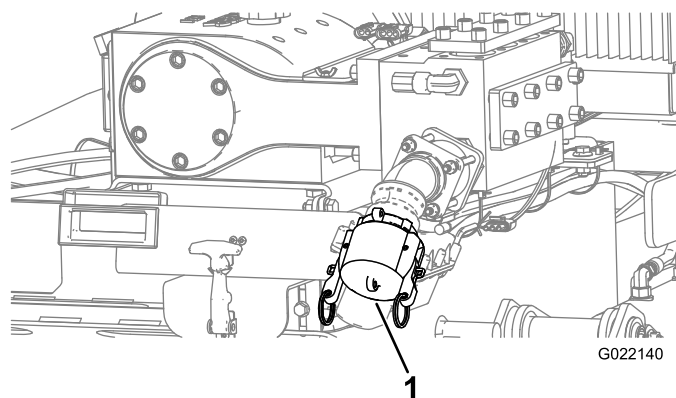

Figure 114
- C. Ensure that the cap is installed on the drilling-fluid pump inlet (Figure 114).